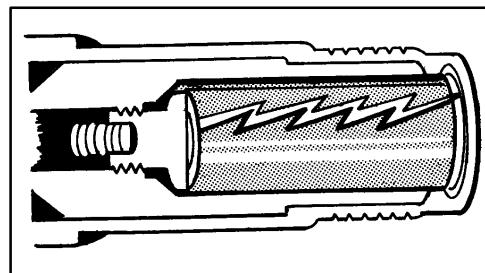

FIGURE 8-7. Spark plug well flashover.
e. Flashover. It is important that spark plug terminal contact springs and moisture seals be checked regularly for condition and cleanliness to prevent "flashover" in the connector well. Foreign matter or moisture in the terminal connector well can reduce the insulation value of the connector to the point the ignition system voltages at higher power settings may flash over the connector well surface to ground and cause the plug to misfire. If moisture is the cause, hard starting can also result. The cutaway spark plug shown in figure 8-7 illustrates this malfunction. Any spark plug found with a dirty connector well may have this condition, and should be reconditioned before reuse.